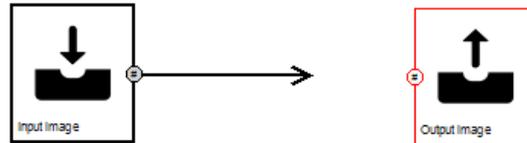

Figure 6.4: Connecting two connectors, left click on one connector and then hold and drag to the other connector
- If you left click and hold and drag on a connector of a step you can make a connection with the connector of another step. That way you can link the output from one step to the input of another (see Figure 6.4).